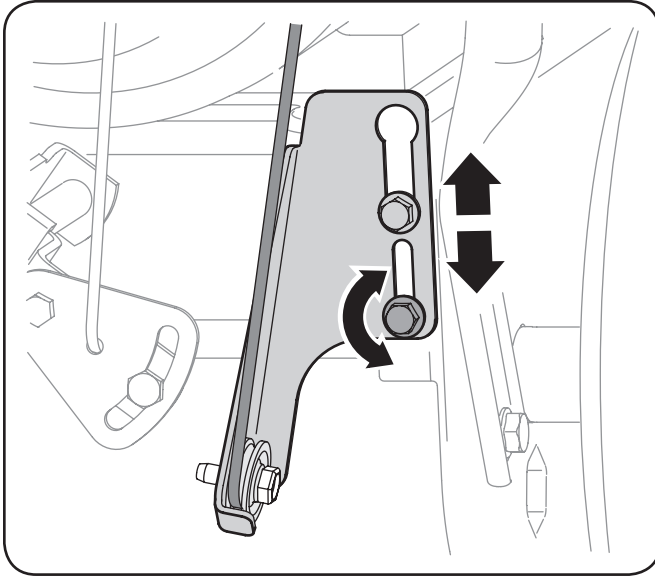

Figure 6-6
- Loosen the lower hex screw on the drive cable bracket. See Figure 6-6.